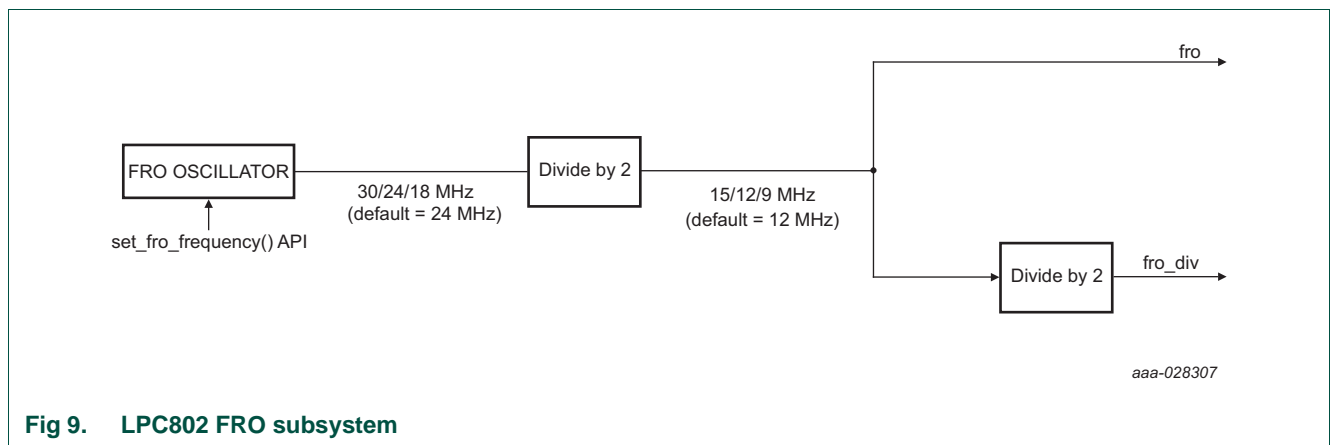

Fig 9. LPC802 FRO subsystem
2. Select the fro_oscout (30 MHz/24 MHz/18 MHz) using the set_fro_frequency API call: Chapter 7 “LPC802 FRO API ROM routine” and Figure 9 “LPC802 FRO subsystem”.
| fro_div | Divided output of the currently selected on-chip FRO oscillator. See Figure 9 “LPC802 FRO subsystem” . |
| fro | The output of the currently selected on-chip FRO oscillator. See Figure 9 “LPC802 FRO subsystem” . |